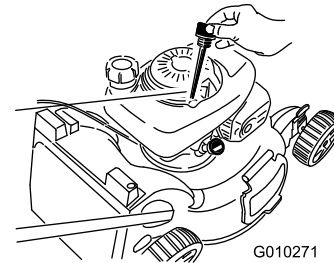

Figure 39
3. Retirez la jauge (Figure 39).